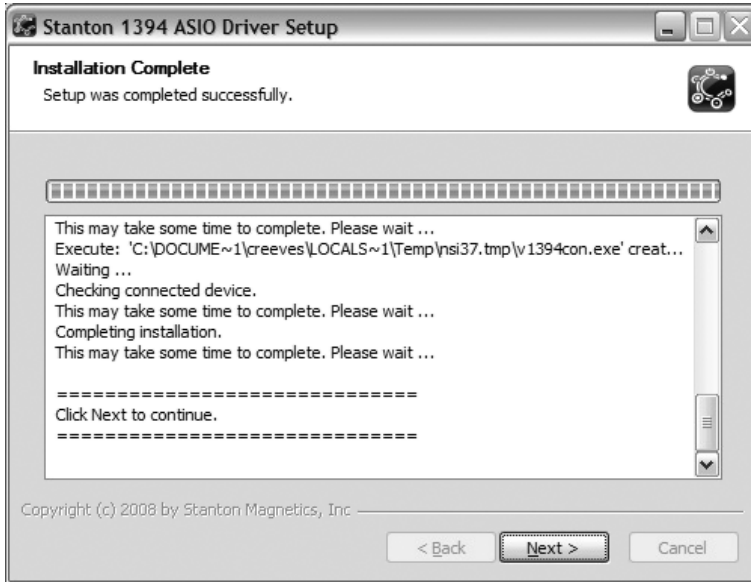

Figure 4.9
9. Click **Next** to continue. (Figure 4.9)